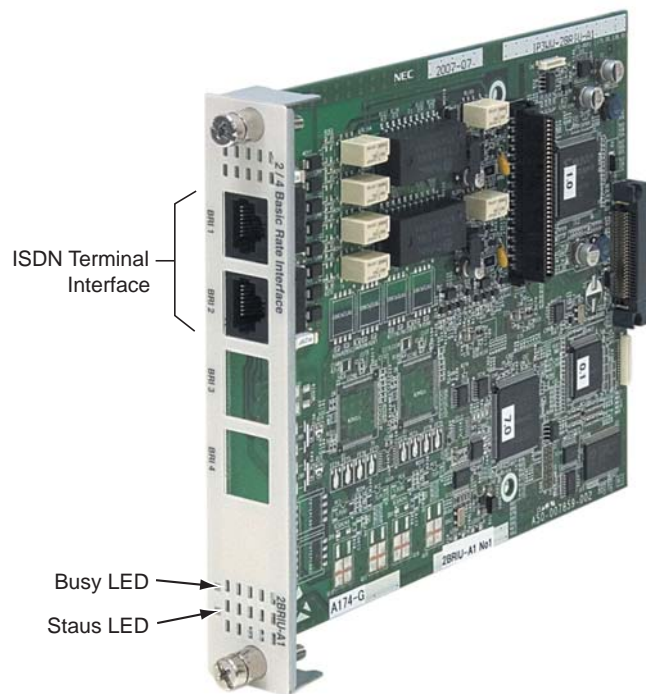

Figure 2-36: BRI BLADE - COMPONENT SIDE
2.7.5 BRI (2BRIU) Interface Blade (Figure 2-36) - P/N 0911048